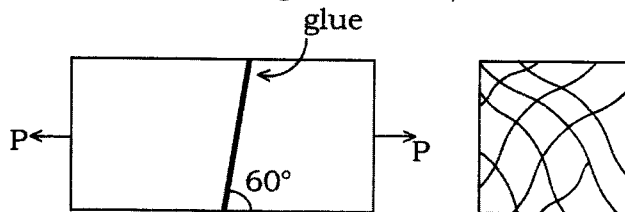

Fig. 1.2
- (f) Write causes of accidents on construction site. Also write role and responsibility of following : (8)
- (g) A tension member is formed by gluing two wooden scantlings each $100 \text{ mm} \times 100 \text{ mm}$ at their ends which are cut at 60° as shown in Fig. 1.2. Calculate the safe value of pull P if the permissible normal and shear stress in the glue are 2 N/mm^2 and 1.5 N/mm^2 . (8)